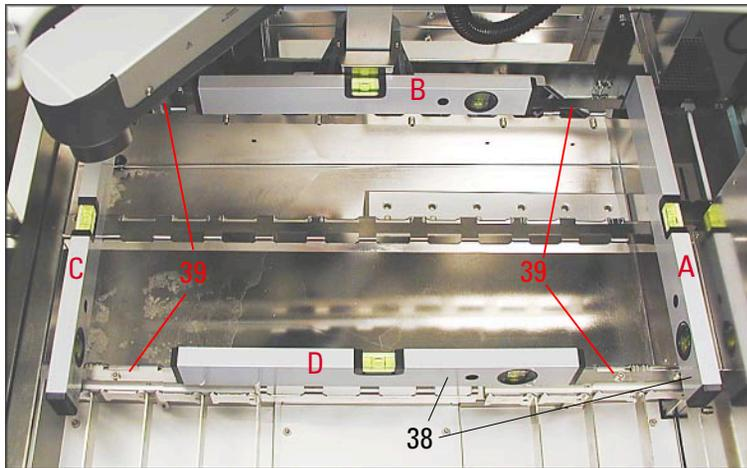

Fig. 22
- For leveling, position box level (38) **alternately** in positions (A and B) - see Fig. 22 on the vessel holder frame.
Abb. 22 shows all four points (A to D) where the box level must be positioned for leveling the instrument. For leveling, the box level must be placed onto vessel holder frame (39). - Do not place the box level elsewhere.